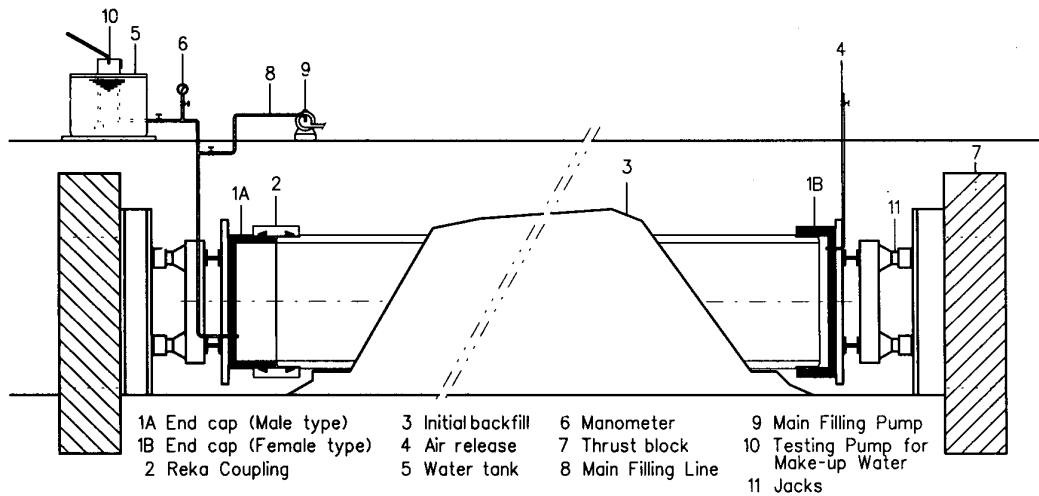

Figure 22 - Thrust blocking pipe ends and site pressure test set up
- The opened ends of a line must be sealed temporarily with GRP or steel/Cast iron end-caps. GRP testing end-caps can be purchased from the manufacturer with the pipes and the fittings. All the end-caps should have an inlet for water filling and an outlet for venting. See figure 22 for a typical arrangement of a test section and apparatus. The approximate end thrust force is given in table 12.
Due to the thrusts occurring at the testing end-caps, temporary blocks must be used to brace the pipe end-caps in order to prevent line displacement as indicated in figure 22.
In the gap between the end of the pipeline and the block, jacks should be placed as shown in figure 22. The last pipe length should also be wedged on both sides, at the top and at the bottom, in order to prevent lateral and vertical movements. Sandbags can be used for this purpose.